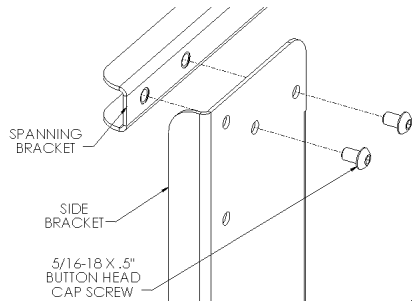
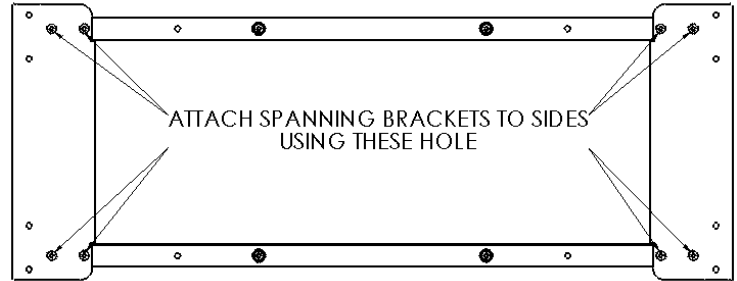

Figure 4
Figure 5
- Using eight 5/16-18 x .5" button head cap screws, attach spanning brackets to sides (see Figure 4 & Figure 5).